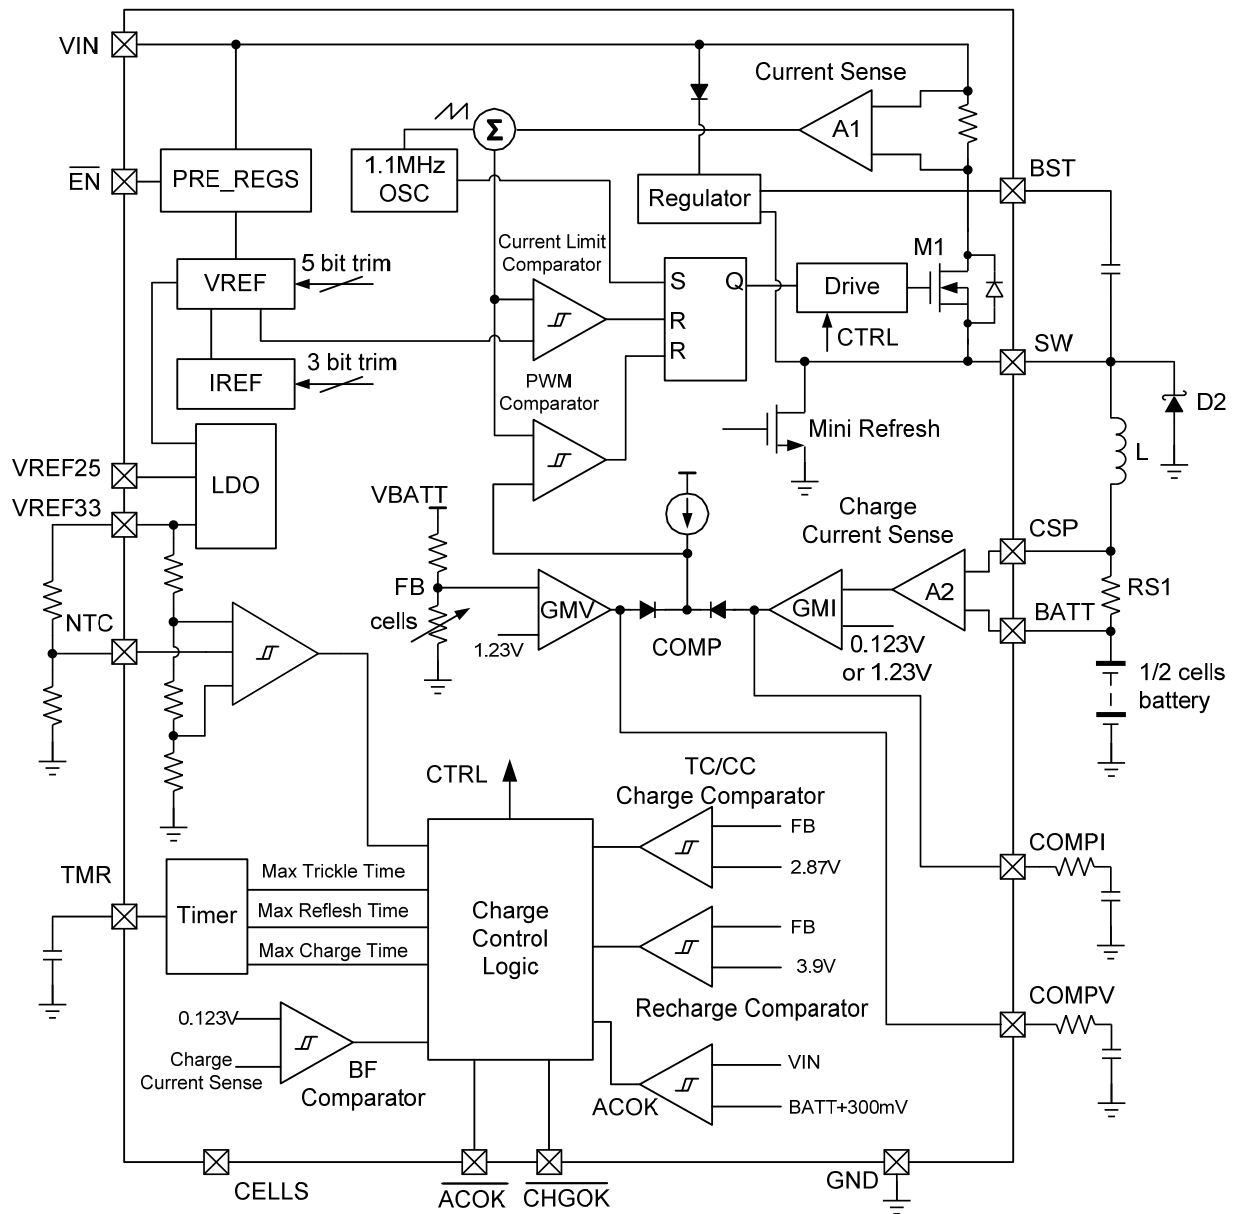

Figure 1—Functional Block Diagram
Figure 1 shows the block diagram. At the beginning of a cycle, M1 is off. The COMP voltage is higher than the output of the current sense amplifier (A1) and the PWM comparator's output is low. The rising edge of the 1.1MHz CLK signal sets the RS flip-flop. Its output turns on M1 to connect the SW pin and inductor to the input supply.
The MP26101 senses battery current through the amplified voltage drop across RS1 (Figure 1). The charging starts in trickle-charge mode (10% of the RS1-programmed current I_{CC}) until the battery voltage reaches 2.87V/cell. If the charge stays in trickle-charging mode until the trickle-charge time limit, the device shuts down. Otherwise, the MP26101 operates in constant-current (CC) mode and regulates the output current to a level set by RS1. The COMPI voltage (regulated by the